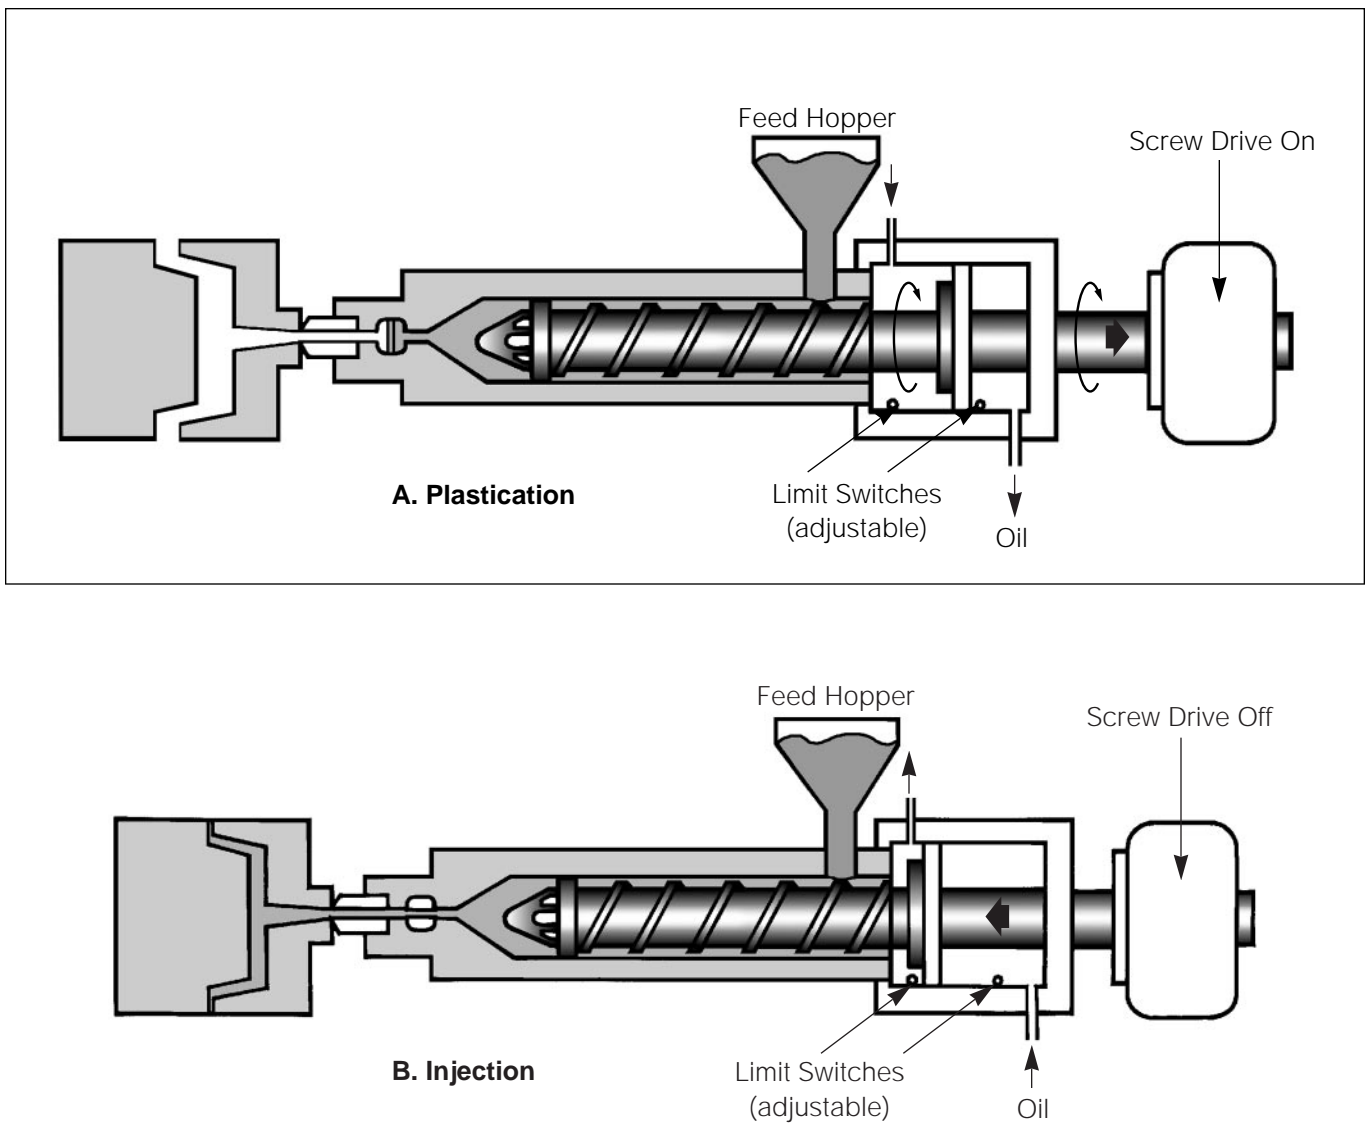

Figure 2.5 Molding Sequence, Single Stage Reciprocating Screw Injection Molding Machine
Because molding is so crucial to producing high quality parts, it is essential to understand the process and to select equipment which ensures consistency and efficiency. Figure 2.5 illustrates the plastication (A) and injection (B) sequences of a single stage, reciprocating, screw injection molding machine.